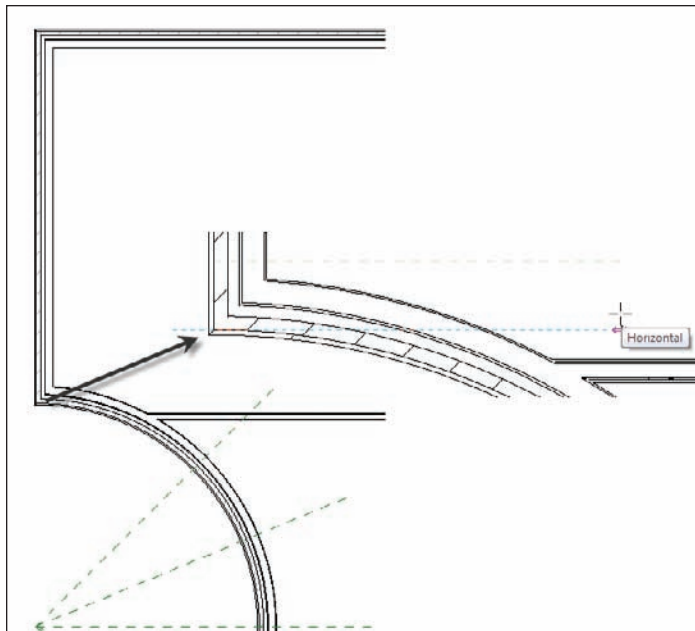

FIGURE 4.17 Creating the reference plane
1. Zoom in on the west section of the west wing, as shown in Figure 4.17.
4. Pick the corner of the radial wall where it intersects the straight wall for the first point of the reference plane, as shown in Figure 4.17.
5. Pick a second point similar to Figure 4.17 to finish the reference plane.